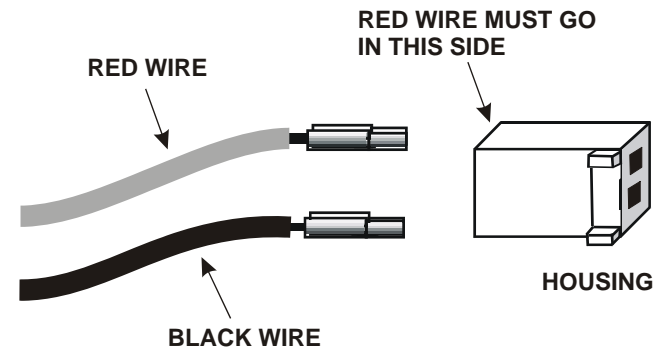

Figure 26. Assembling Battery Supply Jack J5.
- Locate the crimp terminals and housing for plug J5 (Figure 26). Crimp and solder the terminals to the stripped red and black wires.